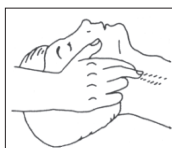
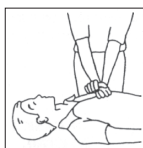
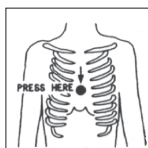

Figure 3
Figure 4
Figure 5
- Check for heartbeat (**Figure 3**); if there is no heartbeat, begin chest compressions immediately (**Figure 4**) placing your hands in the centre of the victim's chest (**Figure 5**).